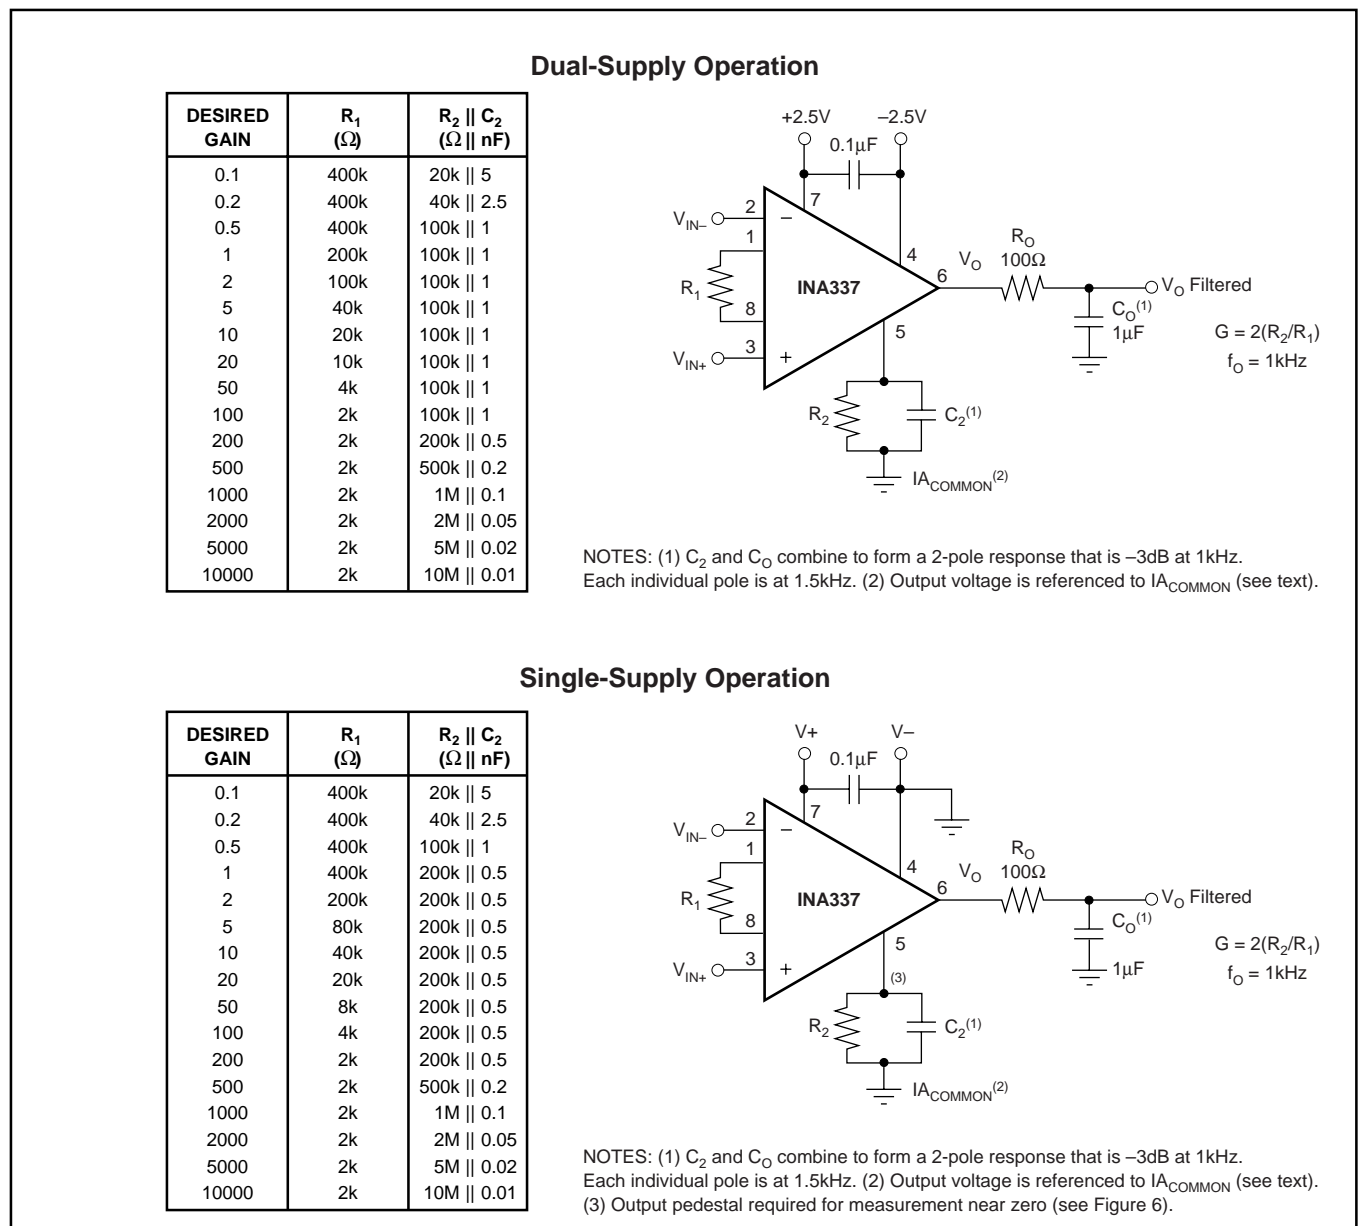

FIGURE 1. Basic Connections. NOTE: Connections for INA338 differ—see Pin Configuration for detail.
NOTES: (1) 1000-hour life test at  $150^{\circ}C$  demonstrated randomly distributed variation in the range of measurement limits—approximately  $10\mu V$ . (2) See Applications Information section, Figures 1 and 2. (3) Does not include error and TCR of external gain-setting resistors. (4) Dynamic response is limited by filtering. Higher bandwidths can be achieved by adjusting the filter. (5) See Typical Characteristics, "Input Offset Voltage vs Warm-Up Time".
Figure 1 shows the basic connections required for operation of the INA337. A 0.1µF capacitor, placed close to and across the power-supply pins is strongly recommended for highest accuracy.  $R_O C_O$  is an output filter that minimizes auto-correction circuitry noise. This output filter may also serve as an anti-aliasing filter ahead of an Analog-to-Digital (A/D) converter. It is also optional based on desired precision.
Resistor values for commonly used gains are shown in Figure 1. Gain-set resistor values for best performance are different for +5V single-supply and for ±2.5V dual-supply operation. Optimum value for  $R_1$  can be calculated by:
Circuit layout and supply bypassing can affect performance. Minimize the stray capacitance on pins 1 and 8. Use recommended supply bypassing, including a capacitor directly from pin 7 to pin 4 ( $V+$  to  $V-$ ), even with dual (split) power supplies (see Figure 1).